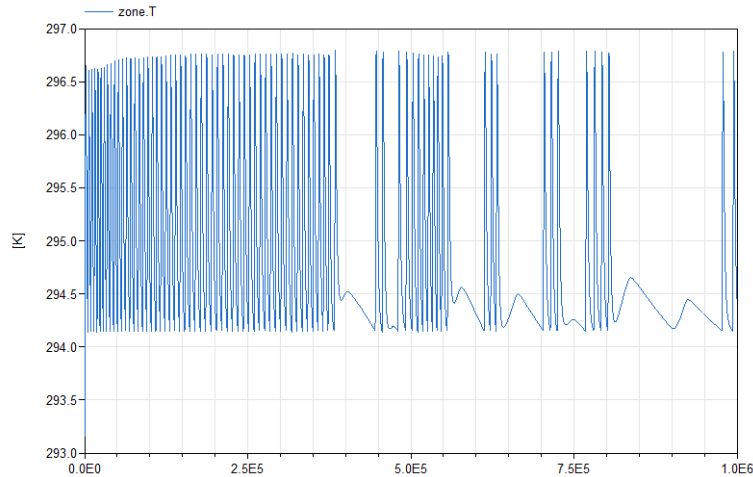

Figure 8: Air temperature as function of time.
**Reference result** Figure 8 shows the air temperature when the controller is added.